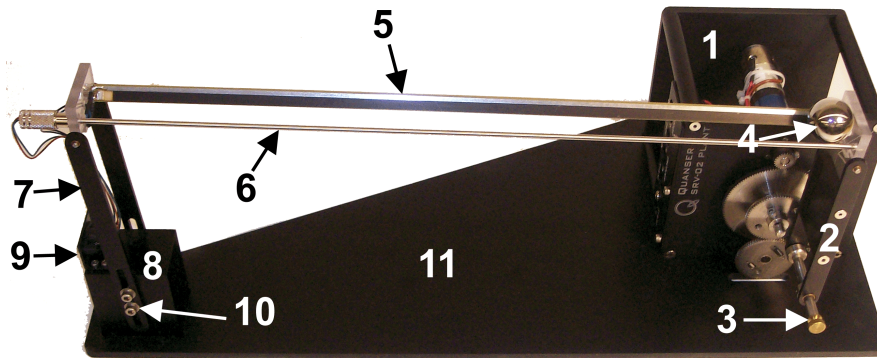
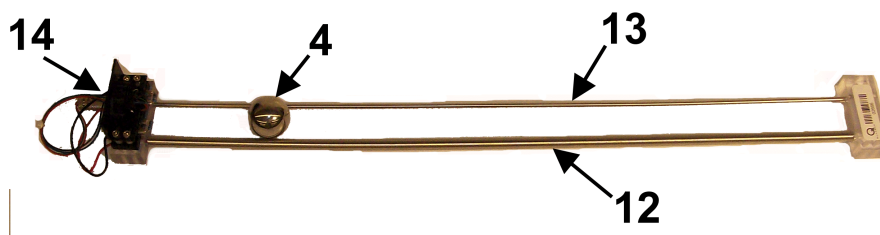
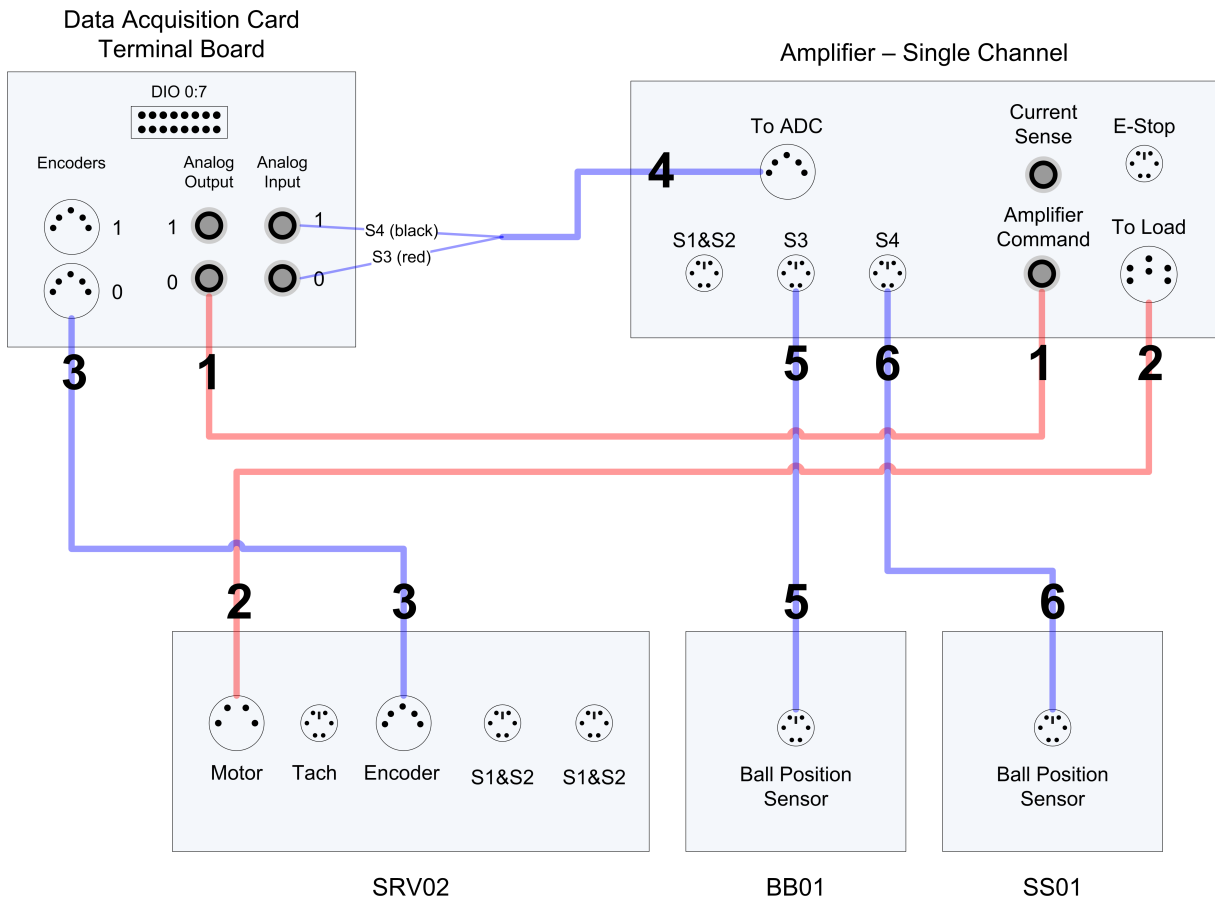

Figure 2.1: Components on Ball and Beam system
Figure 2.2: Components on Remote Sensor system
Figure 5.1: BB01 connections using generic DAQ with a single-channel amplifier
The components of the Ball and Beam module, i.e., the BB01 device, and the Remote Sensor system, i.e., SS01, are listed in Table 2.1 and labeled in Figure 2.1 and Figure 2.2.
2. Lay the calibration base, component #11 in Figure 2.1, flat on a table surface.
5. Place the support base of the ball and beam, component #8 into the cut-out section of the base, as pictured in Figure 2.1.
This section describes the typical connections used to connect the SRV02 plant to a data-acquisition board and a single-channel power amplifier. The connections are described in detail in the procedure below, summarized in Table 5.2, and pictured in Figure 5.1.
Note: The data-acquisition device used in Figure 5.1 is representative for any DAQ device. For example, if you are using a DAQ with 8 analog input/output channels (e.g., like the Quanser QPID or QPIDe), then the same connection are performed.
3. Connect one end of the 2xRCA to 2xRCA cable from the Analog Output Channel #0 on the terminal board to the *Amplifier Command* connector on the amplifier, i.e. use both white or both red RCA connectors. See cable #1 shown in Figure 5.1. This carries the attenuated motor voltage control signal, V_m/K_a , where K_a is the amplifier gain.
4. Connect the 4-pin-stereo-DIN to 6-pin-stereo-DIN cable from *To Load* connector on the amplifier to the *Motor* connector on the SRV02. See connection #2 shown in Figure 5.1. The cable transmits the amplified voltage that is applied to the SRV02 motor and is denoted V_m .
5. Connect the 5-pin-stereo-DIN to 5-pin-stereo-DIN cable from the *Encoder* connector on the SRV02 panel to Encoder Input # 0 on the terminal board, as depicted by connection #3 in Figure 5.1. This carries the load shaft angle measurement and is denoted by the variable θ_i .
7. Connect the *Ball Position Sensor* connector from the BB01 to the S3 socket on the amplifier using the 6-pin-mini-DIN to 6-pin-mini-DIN cable. See connection #5 in Figure 5.1. This carries the the measured ball position from the beam potentiometer and is denoted by variable x .
8. If the SS01 remote sensor module (shown in Figure 2.2) is used, then connect *Remote Ball Position Sensor* connector from the SS01 remote sensor module to the S4 socket on the amplifier using the 6-pin-mini-DIN to 6-pin-mini-DIN cable. See connection #6 in Figure 5.1. This measures the ball position on the remote sensor and is denoted by x_d .